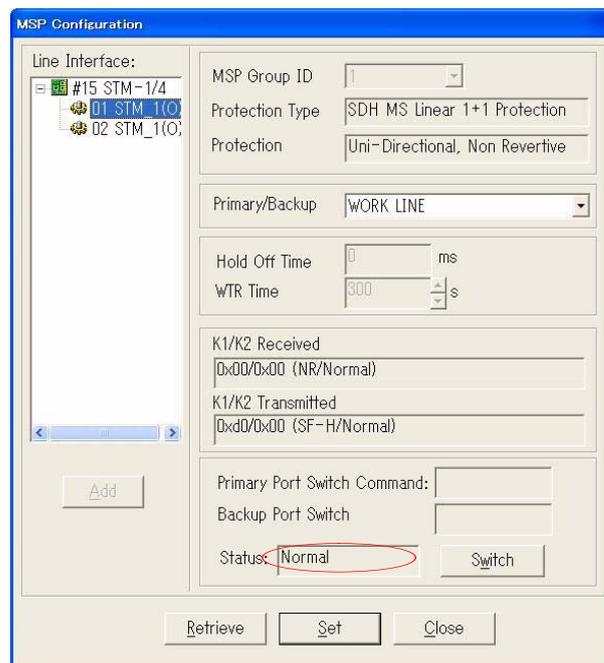

Fig. 4-4-23 MSP in Normal Status
- 1 In **MSP Configuration** window, the read-only edit box **Status** shows the MSP status. If PASOLINK NEO/a works on working line, it shows **Normal** as in *Fig. 4-4-23*: